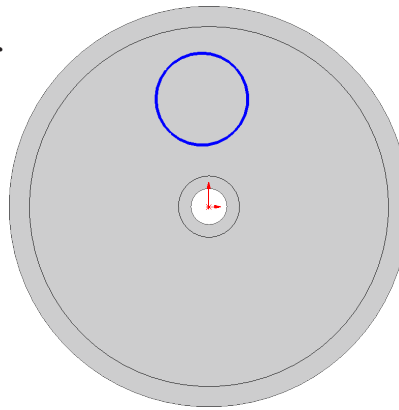

Fig. 14
Step 3. Sketch a circle for the hole above the Origin , **Fig. 14**.